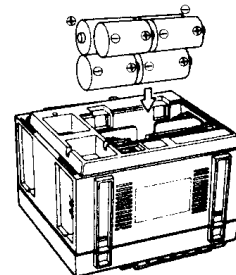

Fig. 5
2. Install six "D" size (R20) batteries into the compartment making sure they are installed in the proper direction as illustrated on the cabinet back (Fig. 5).